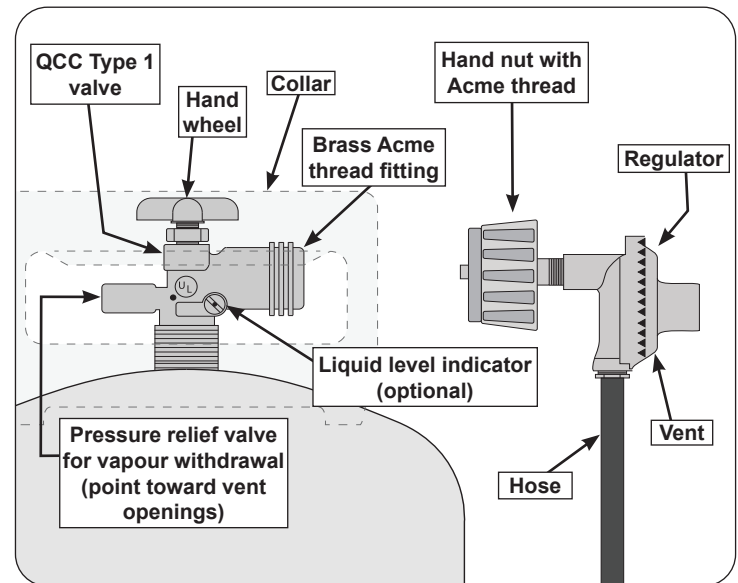

Fig. 13-1 Type I Acme thread coupler
- The cylinder used must include a collar to protect the cylinder valve. The cylinder supply system must be arranged for vapour withdrawal. See Fig. 13-1.
- When used with a cylinder, the gas supply system must be used with a pressure regulator. The pressure regulator and hose assembly (**not supplied**) used must match the specification for Type I by ANSI Z 21.58/CGA 1.6 and must comply with UL 144 as a part of the self-contained LP gas supply system (see Fig. 13-1).
To disconnect: Turn the hand nut counterclockwise until detached (Fig. 13-1).